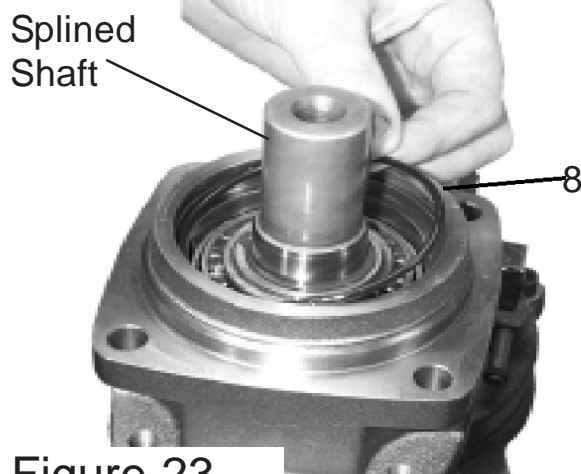

Figure 23
**7.** Install O-Ring Seal. Install the O-Ring seal (item 8) into Bearing housing making certain it is straight and seated into housing. (See Figure 23)